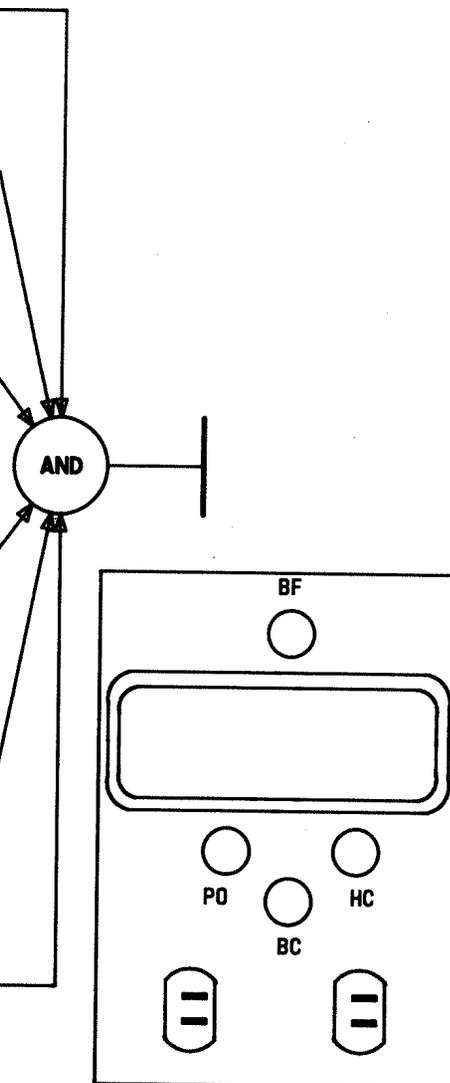

FIG. 2
- [6] Replace fuses BC and BF [on RT power panel, FIG. 2], in that order